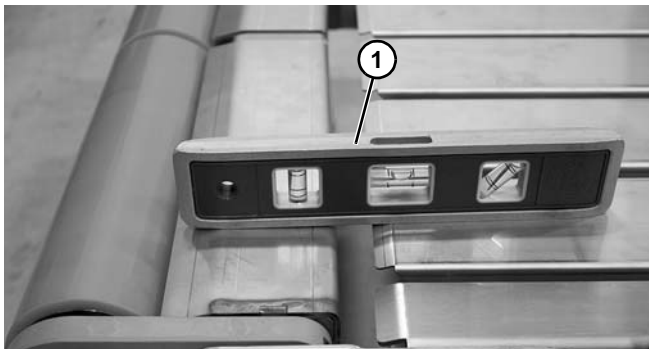

Figure 82
- Check level of idler tail by placing a level (Figure 82, item 1) on top of bed rail and support bracket.